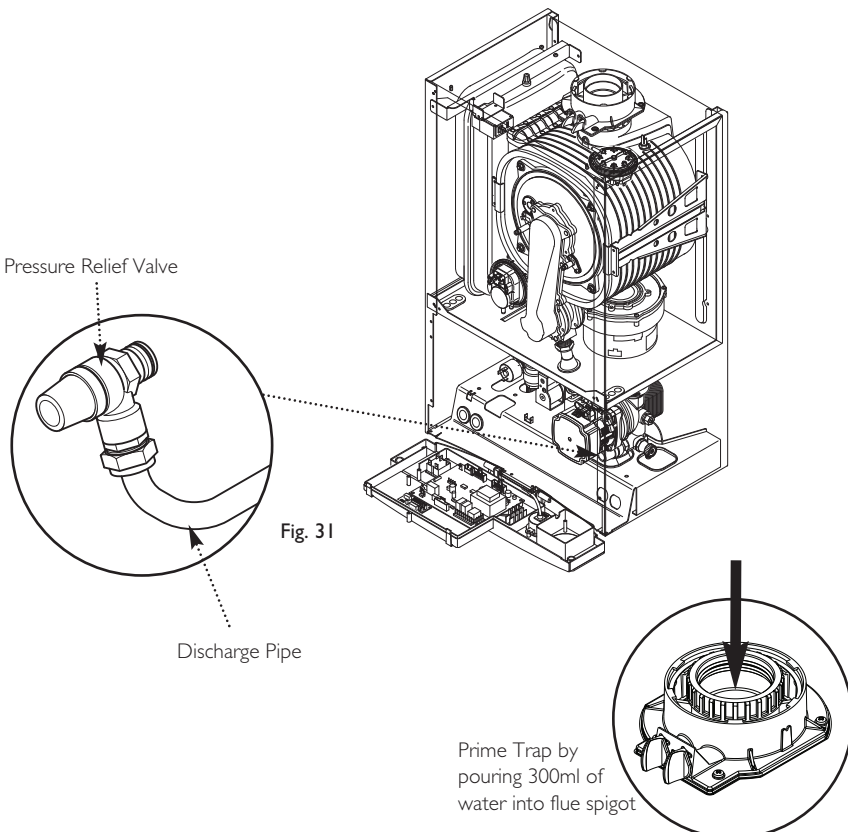

Fig. 31
9.5 Fitting the Pressure Relief Discharge Pipe (Fig. 31)